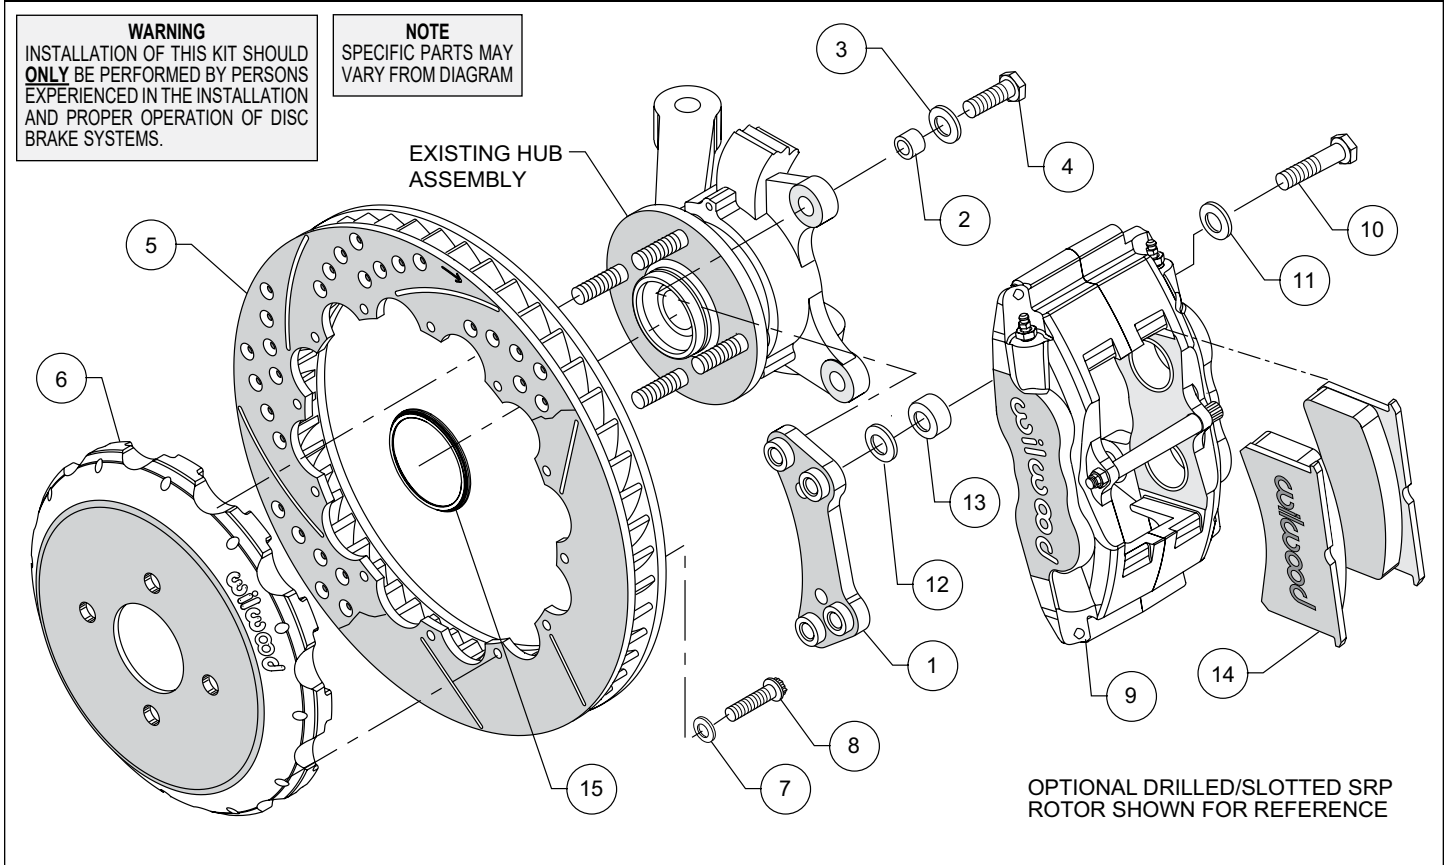

Figure 1. Typical Installation Configuration
NOTE: Numbers in parenthesis refer to the parts list and Figure 1 on the preceding pages.
- Insert one sleeve (2) each into the holes on the top and bottom of the spindle “ears” where the OEM caliper bracket was removed. Apply red *Loctite*® 271 to the caliper mounting bracket bolt threads (4) before installation of the caliper mounting bracket (1). Install the bracket with the flanged heads of the clinch nuts facing outboard, as shown in Figure 1. Slide bolt (4) through washer (3) and into the previously installed sleeve (2), from the backside of the hub. Finger tighten. Repeat for the lower mounting holes. Torque bolts to 60 ft-lb.
- Slide the rotor registration adapter (15) onto the axle hub with the smaller O.D. facing toward the rotor/hat, Figure 1 and Photo 1.
- NOTE:** *Please reference the caution statement at the beginning of the assembly instructions.* Mount the caliper (9) onto the caliper mounting bracket (1) using bolts (10) and washers (11). Insert spacer between the caliper ears and the bracket before tightening the bolts. View the rotor (5) through the top of the caliper. The rotor should be aligned in the center of the caliper. If not, loosen the two bolts and adjust the caliper by using 0.016 inch thick shims (12), placed between the spacer (13) and the bracket, Figure 1. Finger tighten and recheck alignment. Always use the same amount of shims on both the top and bottom caliper mounting bolts. Loosen the two bolts and apply red *Loctite*® 271 to bolt threads and torque to 60 ft-lb.
- Remove the caliper bridge bolt and install the disc brake pads (14) then reinstall the caliper bridge bolt. Repeat this procedure for the other wheel.